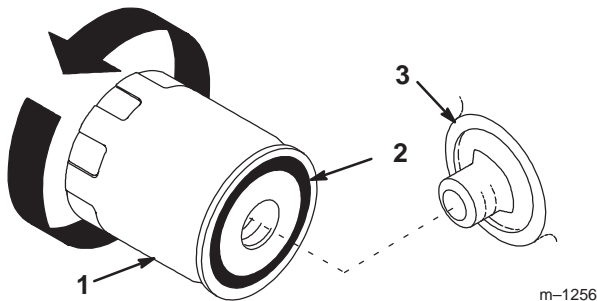

Figure 26
2. Remove the old filter and wipe the filter adapter (Fig. 26) gasket surface.
4. Apply a thin coat of clean oil to the rubber gasket on the replacement filter (Fig. 26).
5. Install the replacement oil filter to the filter adapter. Turn the oil filter clockwise until the rubber gasket contacts the filter adapter, then tighten the filter an additional 2/3 to 1 turn (Fig. 26).